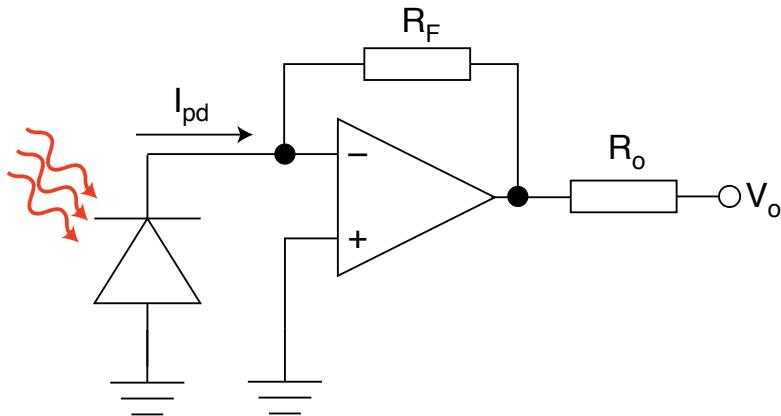

Figure 4.4.1
For a transimpedance amplifier, such as that shown in Figure 4.4.1, let's take $R_f = 10\text{M}\Omega$. What is the value of the ratio V_o/I_{pd} ? Ignore R_o .
- Set up a SPICE simulation of the transimpedance amplifier shown in Figure 4.4.1. Again use the same op amp as in the first simulation (Section 4.2.1).